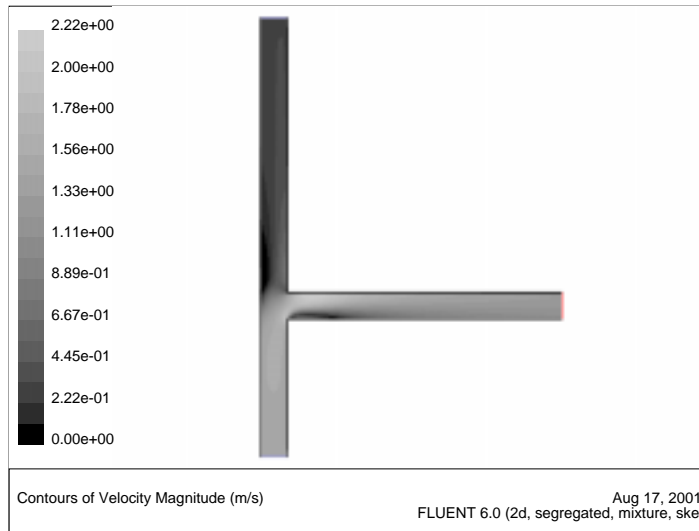

Figure 17.4: Contours of Velocity Magnitude
2. Display contours of velocity magnitude (Figure 17.4).